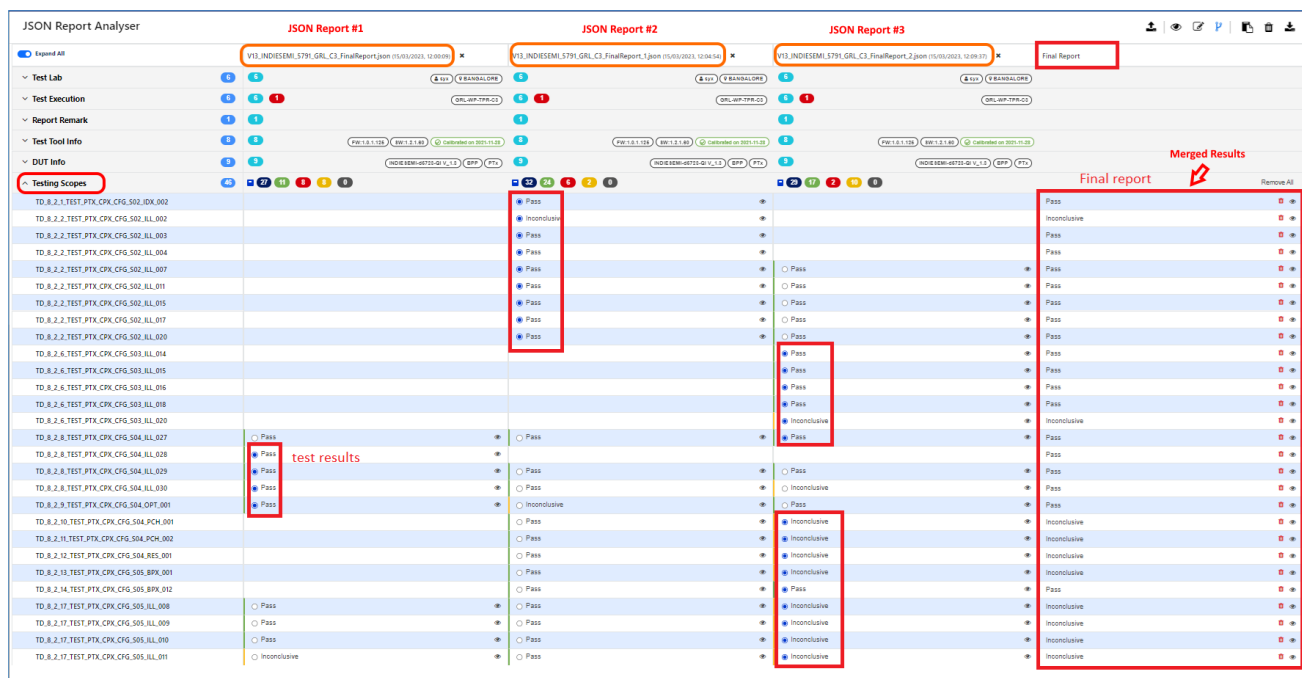

FIGURE 8.91: MERGED TEST RESULTS FROM MULTIPLE JSON REPORT FILES
- Then click on the Testing Scopes data field and select the test results from JSON Report #1, JSON Report #2 and JSON Report #3 as indicated in the Figure 8.91 example below. The selected test results will be reflected under “Final Report” as merged results.